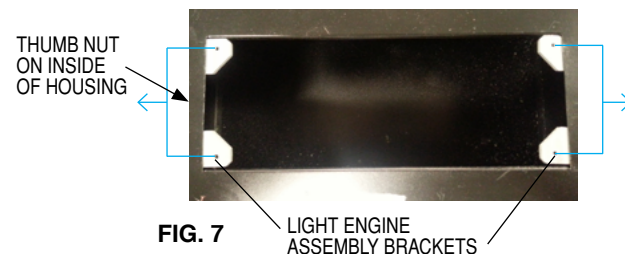

FIG. 7
If desired, for self flanged (SF) installations, the fixture aperture can be used as a cutout template (see Fig. 7).
1. Remove (4) Phillips light engine assembly mounting screws. Screws must be gradually loosened in an alternating pattern to prevent binding of the light engine assembly.
3. Loosen light engine assembly bracket's thumb nuts located inside housing (Fig. 7).
4. Push light engine assembly brackets towards inside of housing (Fig. 7).